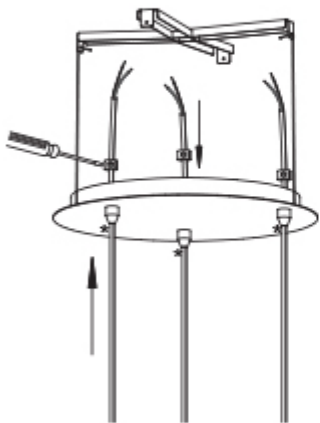

Figure 7
8. Locate the cord-locking collars packaged separately with the individual pendants. Feed the pendant cords up through the openings in the ceiling plate and slip the locking collars over the cords. Then pull the cords upwards until the tape marks from step 1-2 meet the ceiling plate. Slide the locking collars down to the ceiling plate and tighten. These collars will set the height of the pendants and prevent the cord from slipping downward. (Figure 7) *Note: Certain pendants do not come with plastic cord-locking collars. For these pendants, tie a knot in the cord above the ceiling plate to achieve the desired cord length for each pendant.*